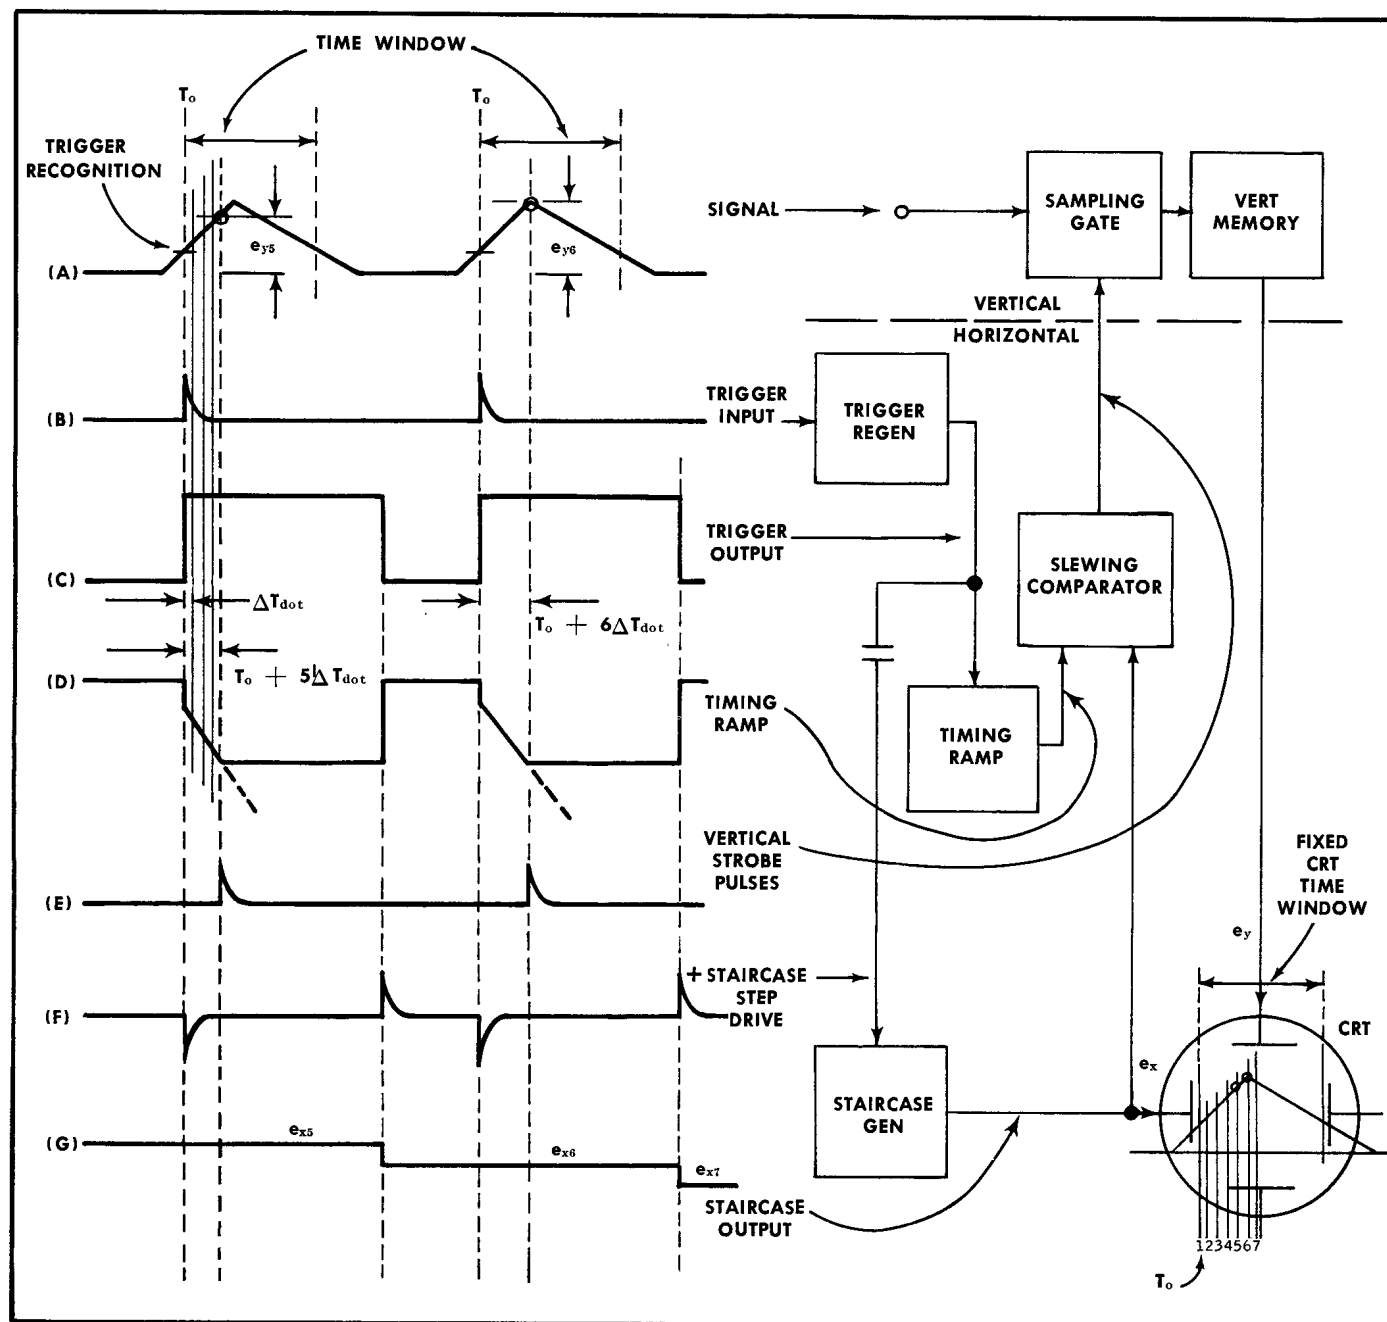
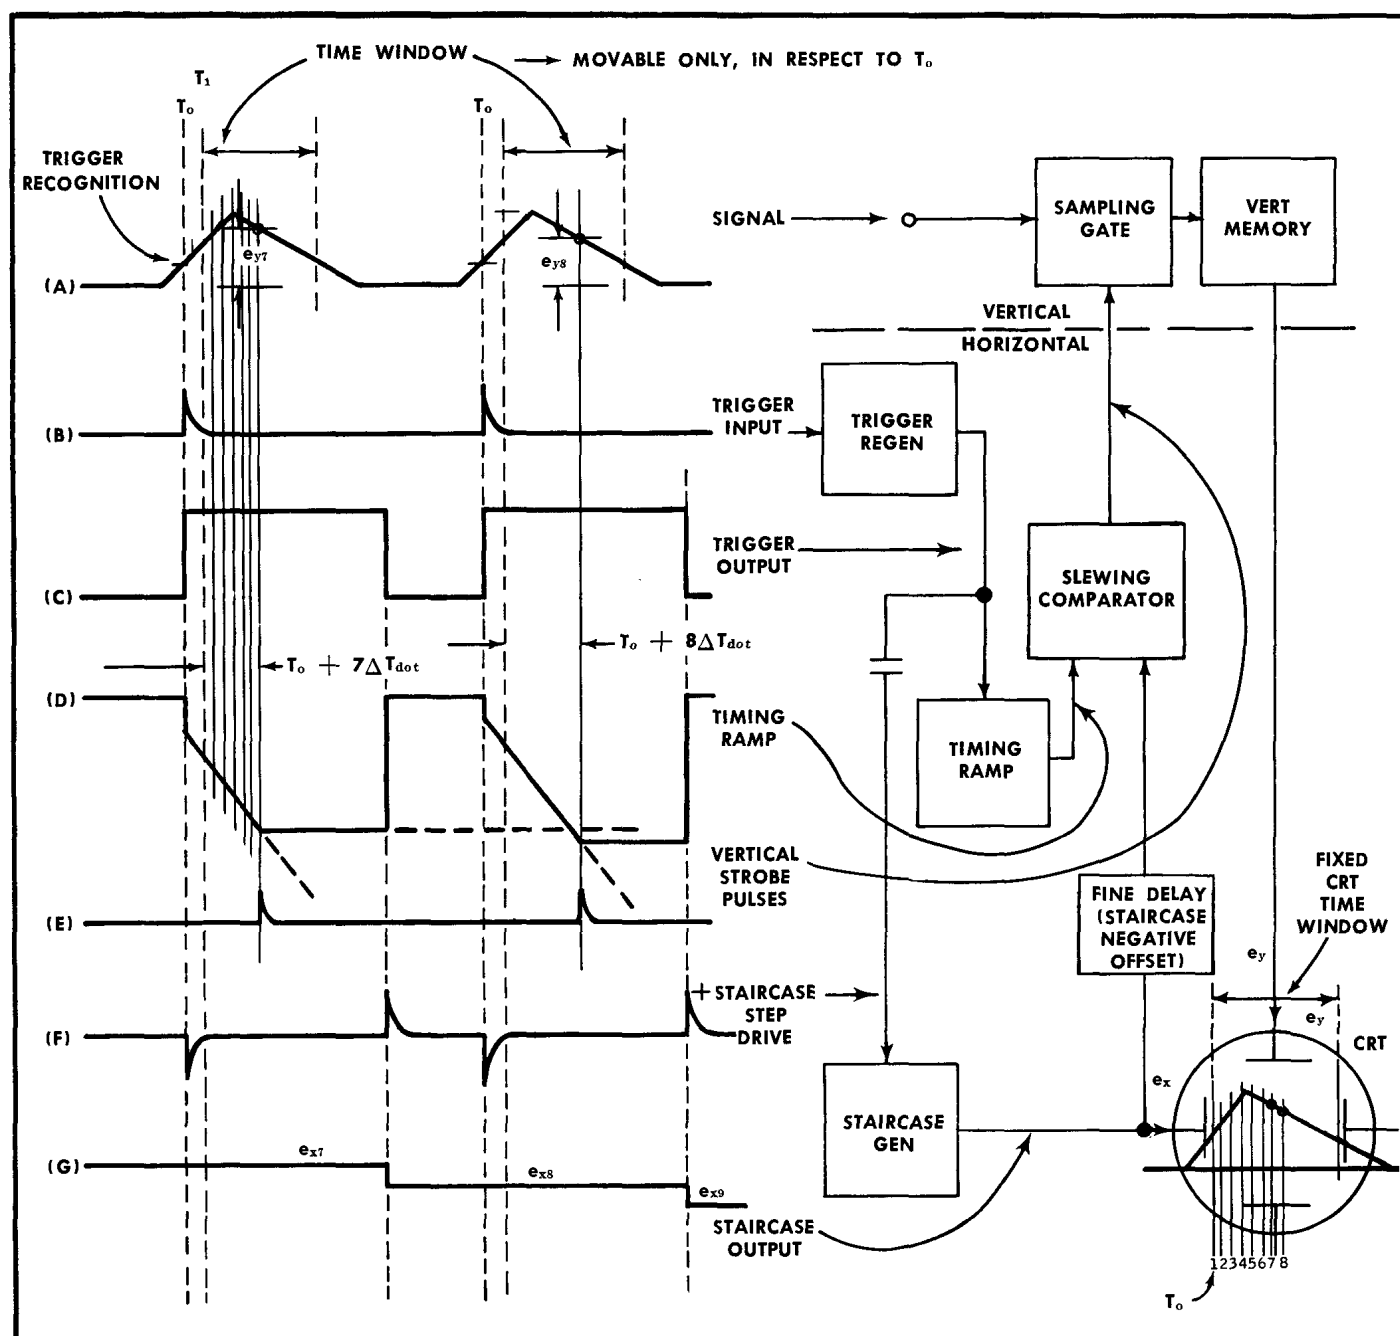

Fig. 3-2. Basic equivalent time sampling oscilloscope.
Fig. 3-3. Adding a time-window Delay control to basic block of Fig. 3-2.
The equivalent time sampling process is shown in basic form in Fig. 3-2. The waveforms represent just two samples in a sequence, such as the fifth and sixth dots of a 1000-dot display. Each waveform is identified with its block, or with interconnections in the adjacent block diagram.
The trigger regenerator circuit is the master programmer of Fig. 3-2. It delivers a positive step pulse at the time of trigger recognition, T_0 , to start the process that takes and displays one sample. Immediately after T_0 the trigger circuits lock out any more triggers until the rest of the circuits have operated and the dot has been properly displayed. (The period of time during which triggers are locked out is called the holdoff time, and is made variable by the Type 3T6 front panel RECOVERY TIME control. See the Operating Instructions for RECOVERY TIME control uses.)
At T_0 , the trigger circuit starts the timing ramp running in a negative direction. The timing ramp "times" the occurrence of the strobe drive pulse sent to the vertical sampling unit as the timing ramp is compared with the voltage of the staircase generator in the Slewing Comparator block. Since the staircase output signal voltage is different for each trigger circuit output pulse, the timing ramp is allowed to run down farther for each successive sample. The result is a time "slewing" of successive sampling times. The slewing increment is identified in Fig. 3-2 as ΔT_{dot} and is a fixed time increment per sample. ΔT_{dot} is set by both the timing ramp slope and the staircase step amplitude.
The waveforms of Fig. 3-2 imply that there can be a CRT dot displayed from the time of the vertical strobe pulse to the time of the timing ramp reset. Actually the CRT blanking is also controlled by the vertical sampling unit. The vertical unit prevents CRT beam current at the time of the vertical strobe pulse and until the vertical memory is stable, typically for 2 to 3 μs .
fied in Fig. 3-2 can be moved so that a different portion of the signal is displayed. Fig. 3-3 shows a Delay control added between the Staircase Gen block and the Slewing Comparator block. This new circuit allows a negative DC voltage offset to be applied to the staircase signal that is compared with the timing ramp signal. Since the comparator block is a DC coupled comparator, changing the DC level of the staircase signal in a negative direction causes the timing ramp signal to travel farther negative before comparison occurs. Since the timing ramp signal is a ramp, the more negative comparison results in a later comparison and later
The staircase signal sent to the CRT is not altered; thus, the voltages that set the CRT dot positions are not changed, the first dot occurring at the CRT left side. If the Delay control applies a negative offset to the staircase signal that feeds the comparator block, the first displayed dot at the CRT left side will have a vertical voltage related to the signal amplitude at time T_1 (see Fig. 3-3 upper left). The result is an apparent horizontal shift of the displayed signal
Fig. 3-3 does not show any method that will alter the equivalent time sweep rate. Two different controls are used to alter the Type 3T6 sweep rate. One is called the Decade control and the other the Multiplier control. Both controls operate BCD digital logic circuits that change the equivalent time sweep rate thus: the slope of the Timing Ramp is altered and the Staircase signal amplitude is altered before it is sent to the Slewing Comparator block.
Now the relation between total Timing Ramp length (and duration) and staircase average DC voltage is significant. With the two least significant DELAY dials at 0 (00), the staircase voltage entering the Slewing Comparator starts the first sample (of a sweep) very soon after the Timing Ramp starts. The staircase end comparison is made slightly less than half way down the Timing Ramp total voltage run. With the two least significant DELAY dials at 9 (99), the staircase voltage entering the Slewing Comparator starts the first sample (of a sweep) at a point part way down the Timing Ramp voltage run. The last staircase comparison is made very near the end of the Timing Ramp voltage run, which is almost twice the time delay (slewing) from T_o as was the case for the last sample when the DELAY dials were 00. Refer to the waveforms (D) and (G) of Fig. 3-3 for support of the above statements regarding slewing compari-